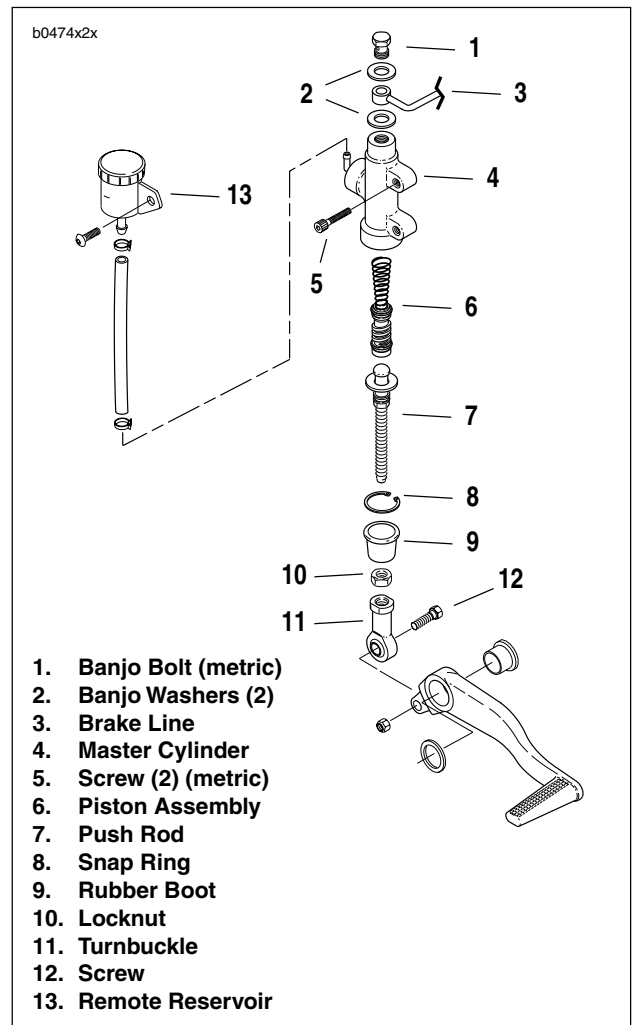

Figure 2-36. Rear Master Cylinder Assembly
2. See Figure 2-36. Remove banjo bolt (1) (metric) and two banjo washers (2) to detach brake line (3) from master cylinder (4). Discard banjo washers.
3. See Figure 2-36. Connect brake line (3) to master cylinder (4) with two **new** banjo washers (2) and banjo bolt (1) (metric). Tighten to 16-20 ft-lbs (22-27 Nm).